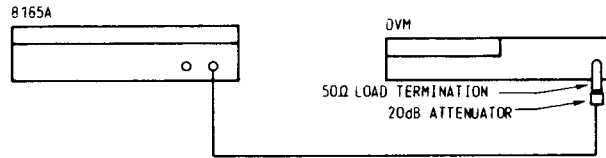

Figure 4-2. Test Setup for Amplitude and Offset.
1. Connect the equipment as shown in Figure 4-2.